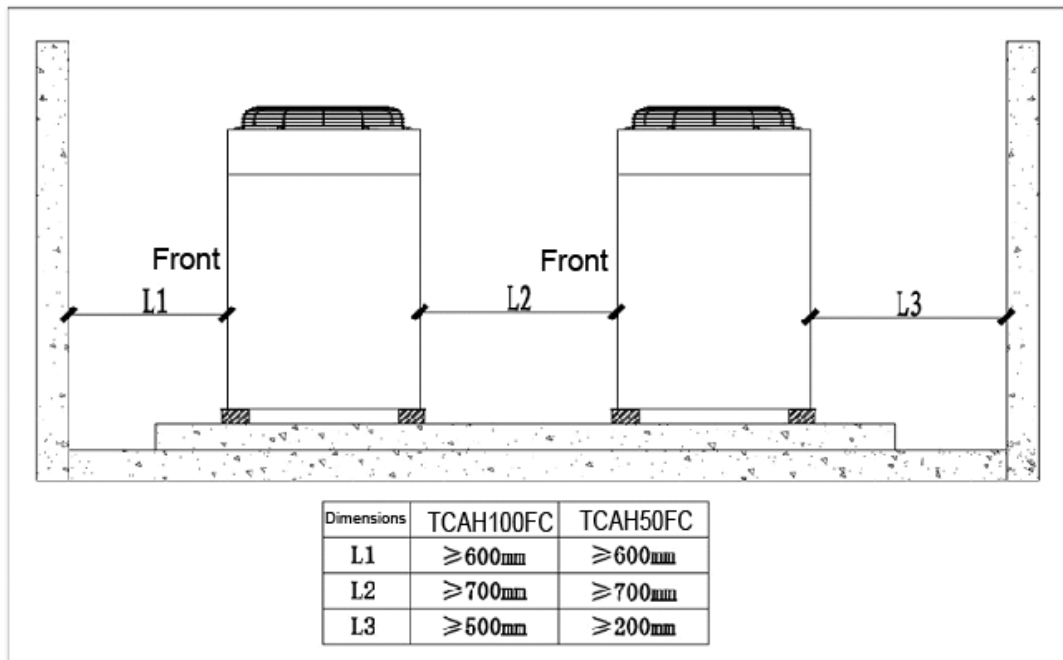

Figure 5.2 Horizontal and side-by-side arrangement
2) Arrange in a horizontal and side-by-side manner, as shown in Figure 5.2.